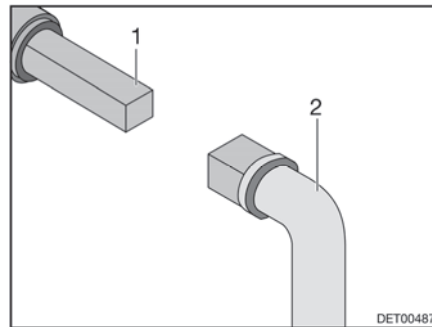

Fig. 113 Operation of the waste water tap
- Place key (Fig. 113,2) onto the square bolt (Fig. 113,1).